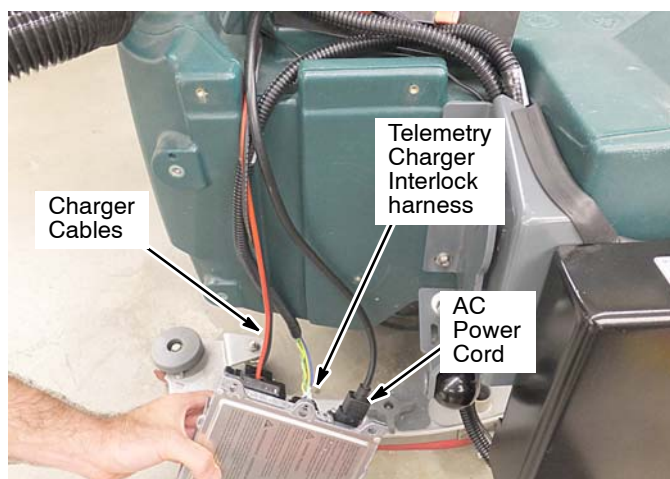

FIG. 22
8. Plug the telemetry harness and AC power cord into the charger as shown (FIG. 22). Route the charger cables and AC power cord into the battery compartment area as shown.